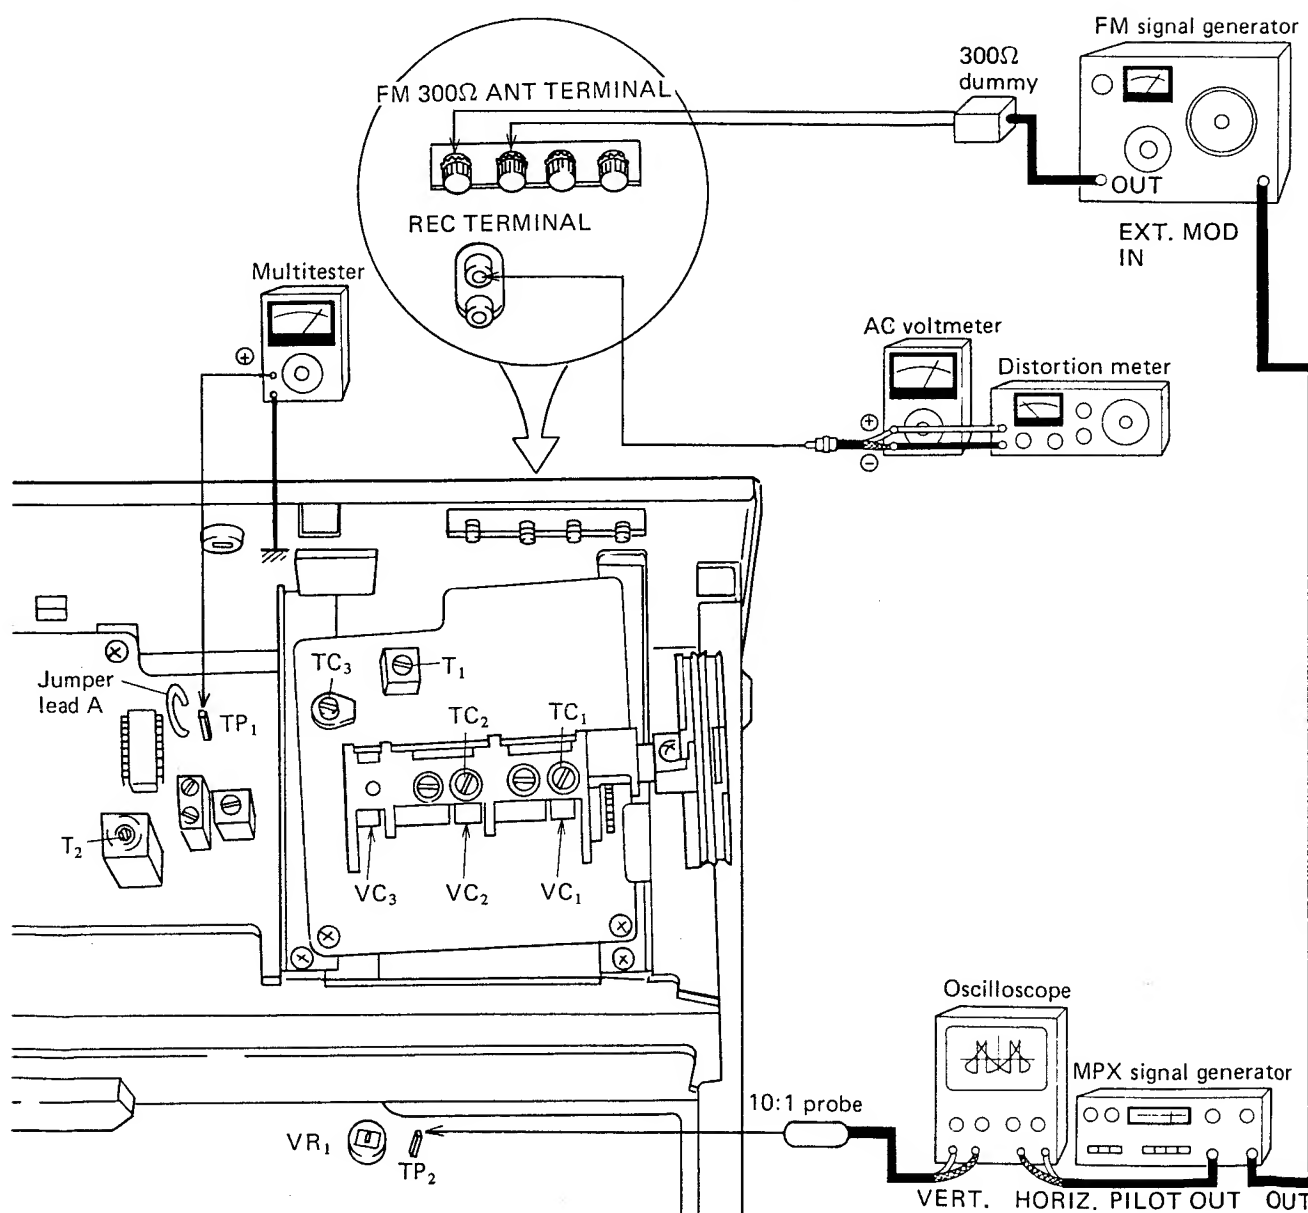

Fig. 7 Connection diagram
1. Connect up the test instruments as shown in Fig. 7.